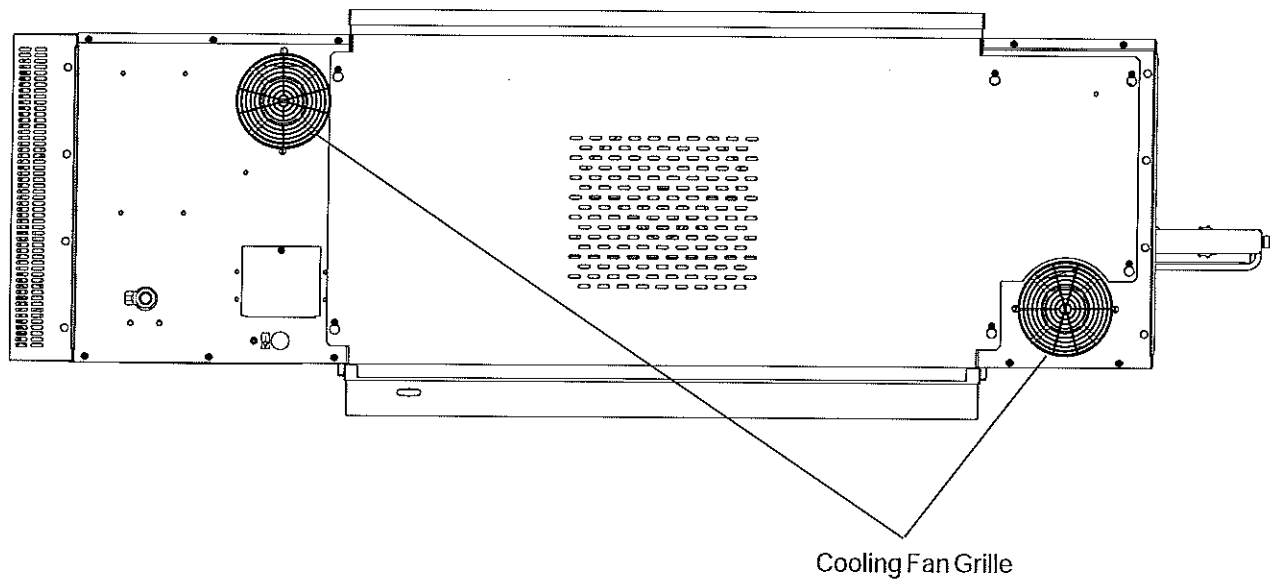

Figure 1-8. Cooling Fan
D. Cooling Fan — See Figure 1-8